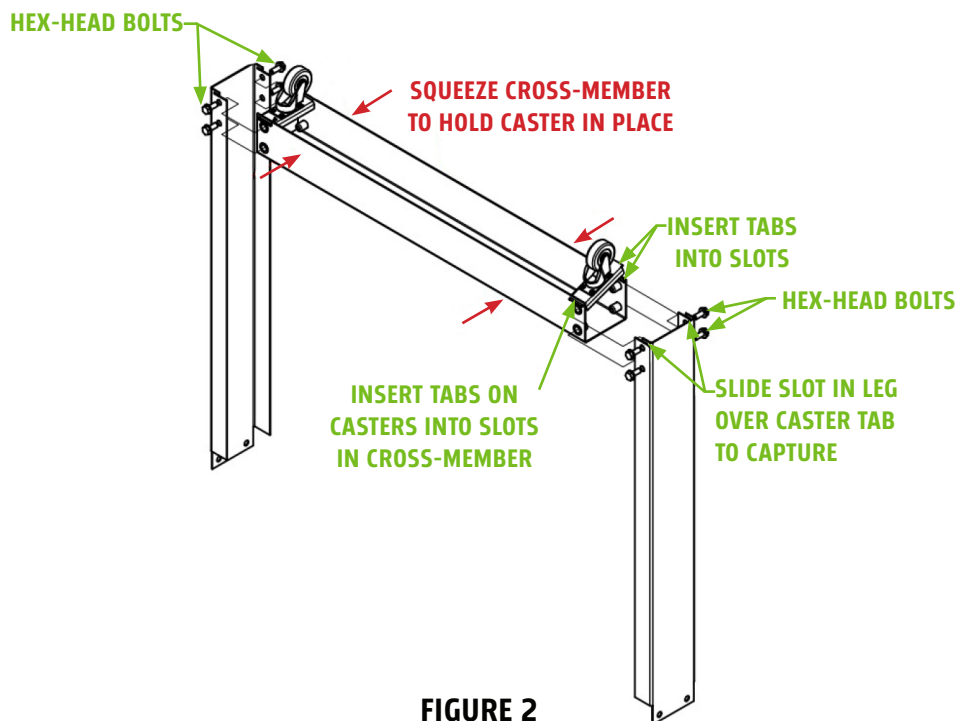

FIGURE 2
4. Insert the Tabs on the Caster Assembly into the slots on the Leg Cross Brace, then squeeze the Cross Brace to hold the Caster in place (See Figure 2).
7. Repeat for the four Caster Assemblies, completing the two Leg Assemblies (See Figure 2).